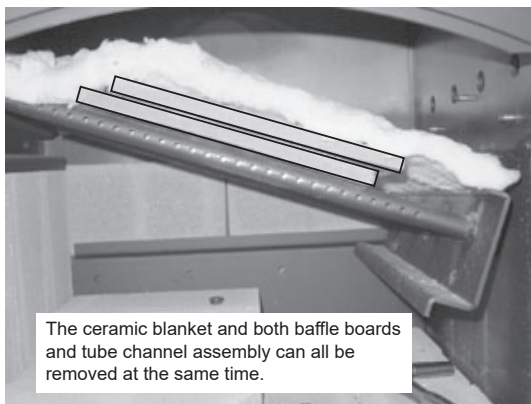

Figure 24.2
4. Slide the tube channel assembly to the left as far as it will go and lower the right side. Remove the baffle boards and ceramic blanket together (**Figure 24.2**).